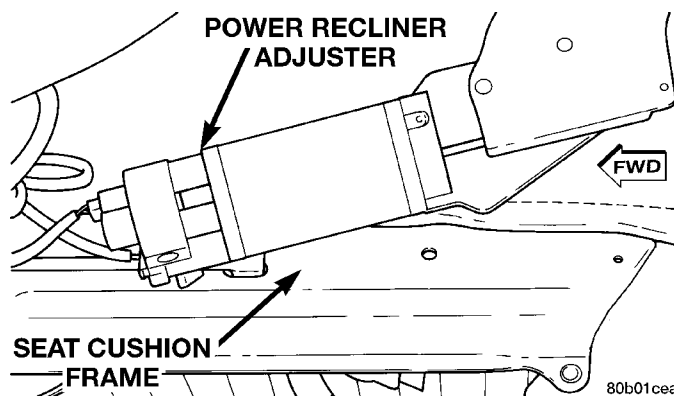

Fig. 5 Power Recliner Adjuster Lower Bracket Remove/Install
(1) Move the seat to its fully forward and fully raised positions, if possible.
(2) Remove the three screws that secure the out-board seat cushion side shield to the seat cushion frame and pull the shield away from the seat cushion far enough to access the power recliner adjuster lower bracket.
(3) If possible, adjust the seat back with the power recliner switch far enough to access both of the two screws in the power recliner adjuster lower bracket.
(4) Disconnect and isolate the battery negative cable.
(5) Remove the two screws that secure the power recliner adjuster lower bracket to the seat cushion frame (Fig. 5).